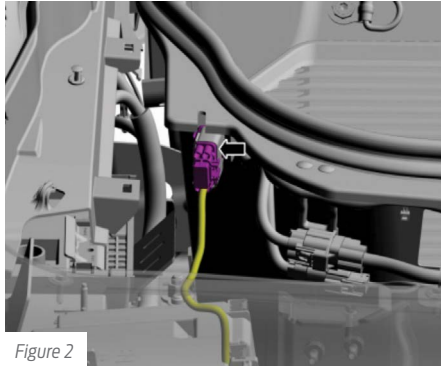

Figure 2
2. Disconnect the electrical connector. [Figure 2]